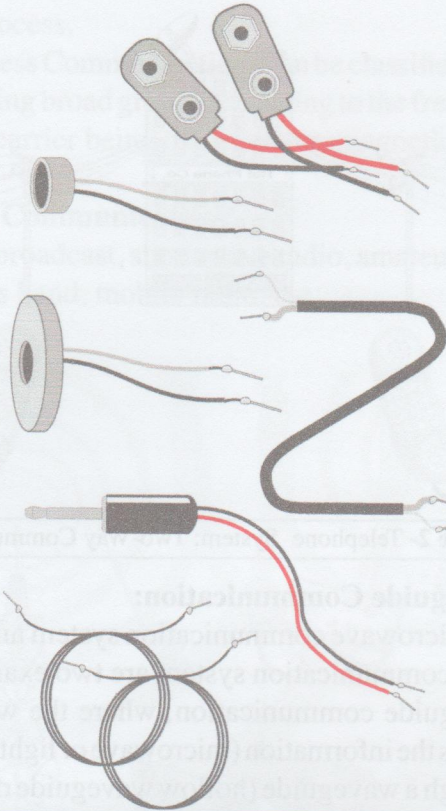

Figure 9 - Solder solid wire terminals to the above components
4. Solder the 1/2" long pieces of solid wire that you just cut to the wires of the electret microphone, piezo speaker, battery snaps, 3.5mm plug, both sides of the 5' wire and both sides of the coaxial cable, as shown in figure 9.